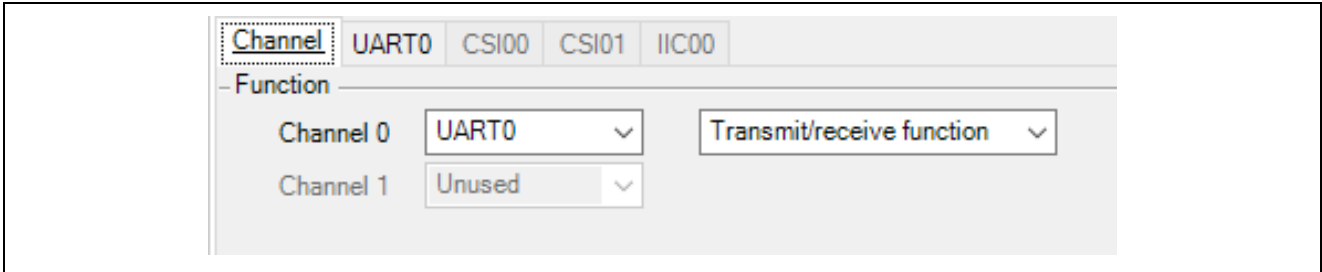
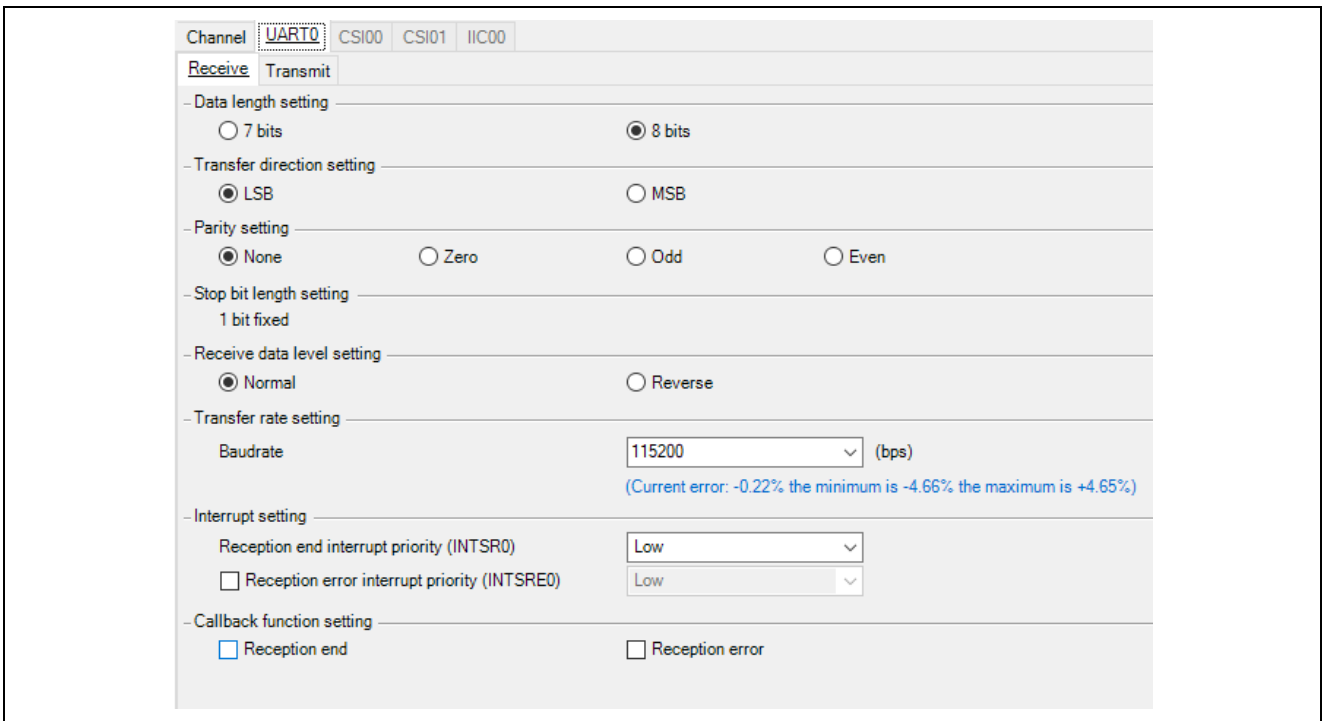

Figure 4.23 SAU CG Configuration (1/3)
Figure 4.24 SAU CG Configuration (2/3)
The device driver in this application note is generated by using the code generator (CG). For the CG settings, refer to Figure 4.23, Figure 4.24, and Figure 4.25.